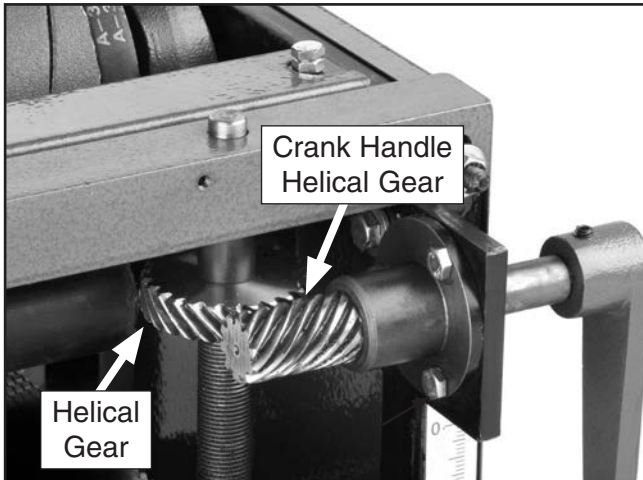

Figure 52. Helical gear and crank handle helical gear.
- 33. Before re-installing the gear box cover, try raising and lowering the conveyor table with the crank handle. If the helical gears (see **Figure 52**) are not engaged, the crank handle will only raise the table.